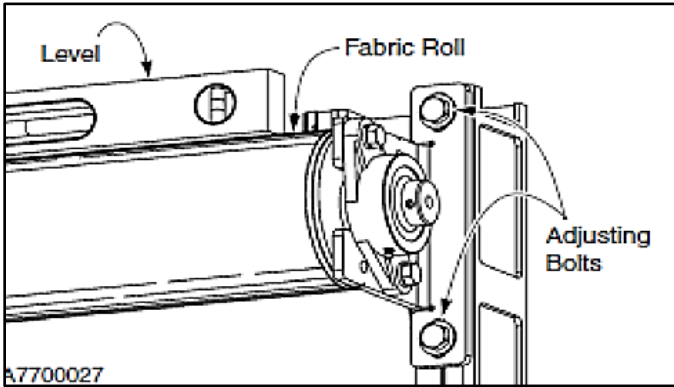

Figure 26
1. If the fabric is not tracking properly, verify that the fabric roll is level. Adjust as required. (See Figure 26.)